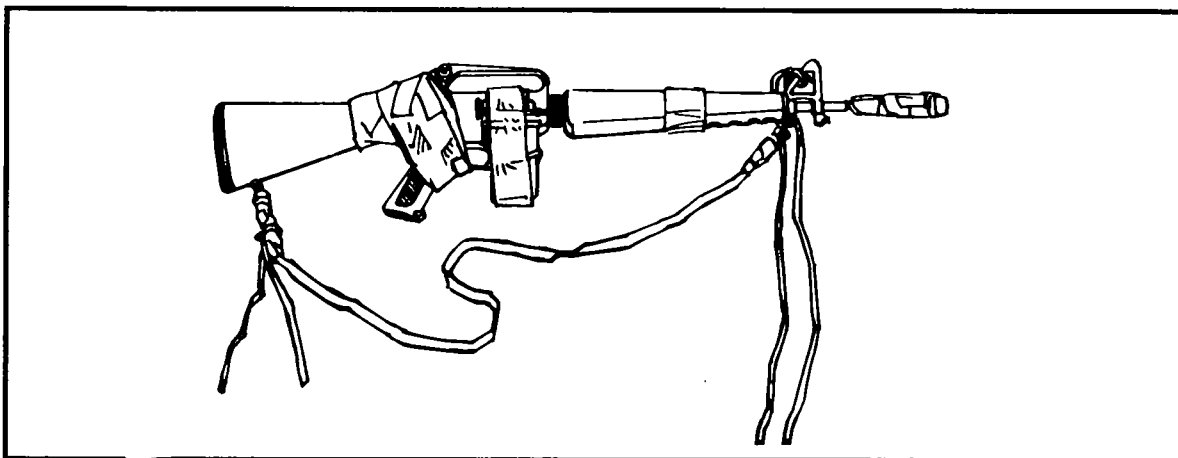

Figure 6-16. Tie-downs.
b. Further secure the weapon with two tie-downs of 1/4-inch cotton webbing (or a like item) with bowknots (Figure 6-16). Secure the sling to the diagonal backstrap with the upper tie-down, which is a 12-inch tie strap. Secure the barrel of the rifle to the leg with a 24-inch strap to prevent possible entanglement with suspension lines. Remove the lower tie-down before landing to avoid personal injury.